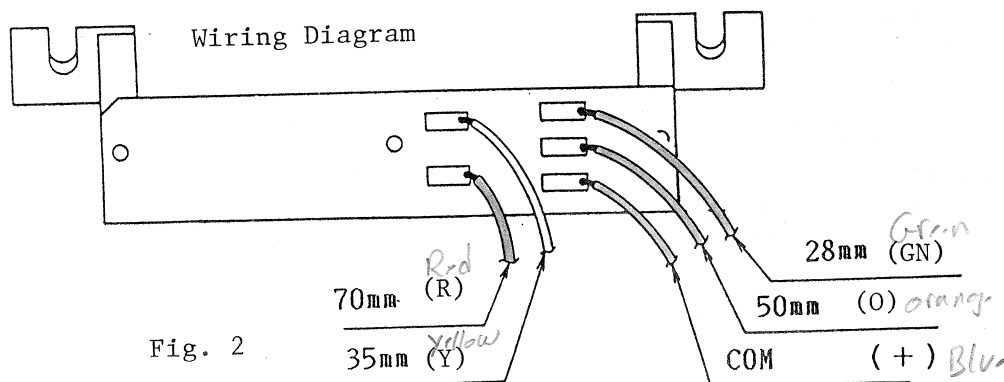

Fig. 2
1.5 To remove the top cover completely, unsolder the five leads to the LED (Fig. 2).